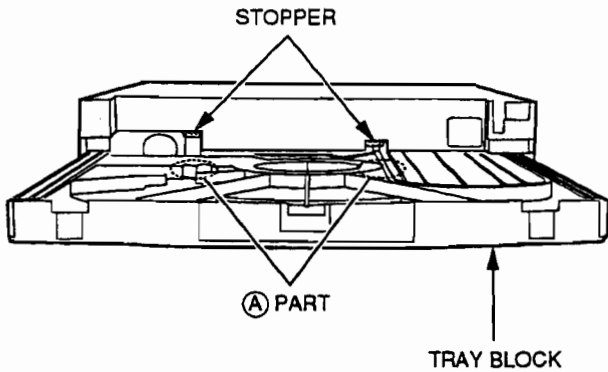

Fig. 3-10
- 2) In order to disengage the two stoppers, carefully press the Ⓐ part of the TRAY BLOCK downwards while pulling the TRAY BLOCK out as shown in Fig. 3-10.